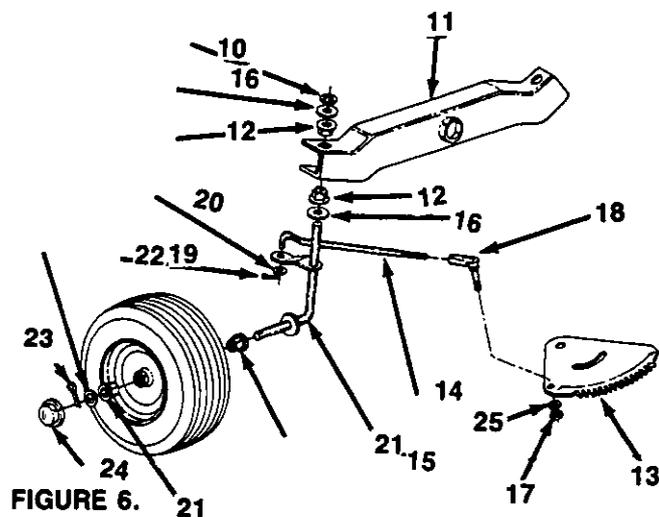

FIGURE 6.
1. Remove one lock washer and hex nut at ball joint and steering gear segment. See figure 6.
2. Remove the cotter pin and flat washer on end of the rod at axle assembly. See figure 6.
5. Remove hub cap, cotter pin and flat washer on axle to remove wheel. See figure 6.